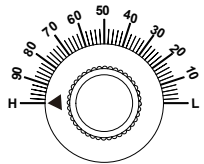

Figure 2
2. Turn the "SENSITIVITY" to the "H" position (Figure 2).